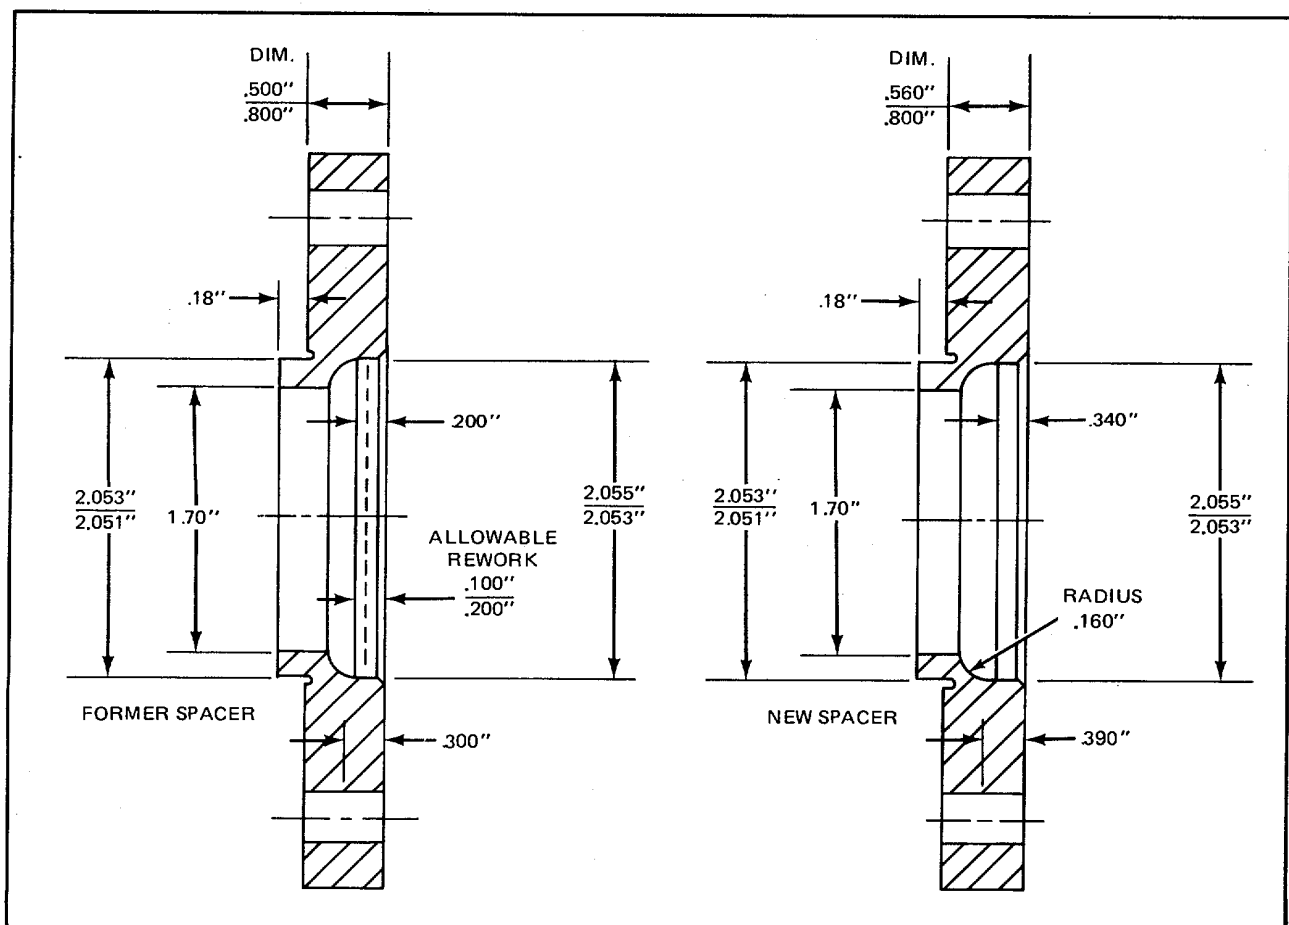

Figure 1. Former and New Spacers
The new fan hub spacers are similar to the former spacers except for the flange pilot radius and the width of the spacers (Fig. 1). The flange on the spacer serves as a pilot for the fan, as well as a pilot for the second spacer when two or more spacers are used together.
SERVICE: The former 0.800-inch thick spacer can be reworked into the new 0.800-inch thick spacer by removing material at the radius (Fig. 1). A
2. Drill and tap the fan hub, at the location shown in Fig. 1, to accept a 1/8 PTF x 11/16 inch threaded lubricator fitting. Clean the hub to remove any metal chips.
4. Install a new fan hubcap which is threaded for a relief valve (Fig. 1).